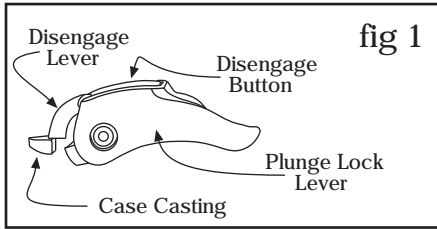

fig 1
1. Disengaging the plunge lock will be required for installing and using the Router Raizer. Using Fig 1, press the plunge lock lever down then press the disengage button. The disengage lever will rotate up and engage the case casting as the plunge lock lever is released. To lock the router push the plunge lock lever down and release
On some routers the #1 mainshaft head may not be flush with the bottom of the router base. Shown fig 1.
To determine if mainshaft head is flush, sight, or lay a straight edge over the #1 mainshaft head. Shown fig 1. If head is below flush or flush with the base, proceed to step two below. If head is above the base proceed to back of page.